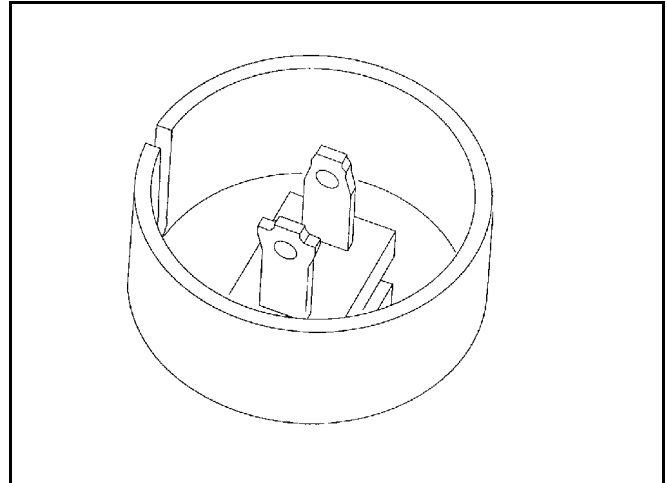

Figure 3
13. To reduce the risk of electric shock, this mower has a polarized plug (one blade is wider than the other) (Figure 3) and will require the use of a polarized extension cord. The polarized extension cord receptacle will fit onto the mower plug only one way. If the extension cord receptacle does not fit fully onto the mower plug, reverse the cord receptacle. If the cord receptacle still does not fit, obtain a correct polarized extension cord. A polarized extension cord will require the use of a polarized wall outlet. The extension cord plug will fit into the polarized wall outlet only one way. If the cord plug does not fit fully into the wall outlet, reverse the cord plug. If the cord plug still does not fit, contact a qualified electrician to install the proper wall outlet. Do not change the mower plug, extension cord receptacle, or extension cord plug in any way.